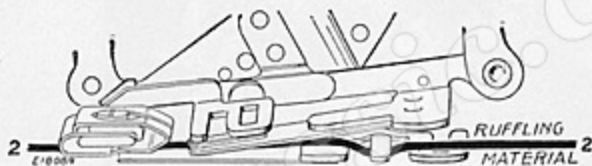

Fig. 93. Correct Position for the Material
- (2) Insert the material to be pleated between the two blue blades and under the separator guide, **Line 2, Fig. 93.**